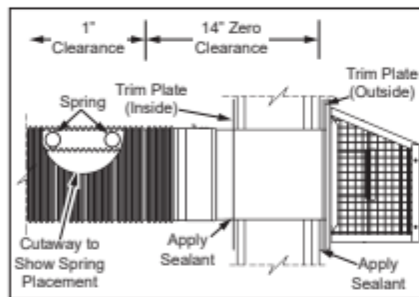

Figure 9 - Trim Plate Install
Cut a clearance hole, approximately 7" in diameter, through the exterior wall for the vent assembly. The recommended height is 64" for 40 gallon models or 73" for 50 gallon models, as measured from the hole center to bottom of water heater. Where the wall is combustible and the wall thickness is over 14", a 1" clearance to combustible surfaces around the vent terminal is needed. The first 14" is zero clearance (see Figure 9 on page 10).
The vent piping and the vent termination hood are to be connected as shown in Figure 7. Maintain vent clearances to combustibles as shown in Figure 9. Depending on your access to where the vent termination passes through the wall, you may wish to connect the piping and vent termination hood together first. Inside the vent piping there are springs that hold the two corrugated pipes in position. When the pipes are stretched to the required length, the springs will remain properly spaced. To connect the vent piping to the vent termination hood, first slide the inner (3") corrugated pipe over the inner vent termination pipe. Continue this action until the locking clip on the corrugated pipe snaps into position in the corresponding groove (see Figure 7). Secure corrugated pipe with screw (supplied) inserted through hole opposite the locking clip. Repeat this process with the outer (6") corrugated pipe and lock it into position on the outer pipe on the vent termination (see Figure 7). Secure corrugated pipe with screw (supplied) inserted through hole opposite the locking clip.
Some models are supplied with trim plates which may be used to cover the holes in the wall (see "Completed Installation" on page 2 and Figure 9). Slide one trim plate (if supplied) over the outer corrugated tube, then insert the outer corrugated tube through the clearance hole from exterior wall. Secure the trim plate to the exterior wall, then secure the vent terminal to the exterior wall with 4 screw anchors (included) appropriate for the type of wall construction. Caulk the junction of the vent terminal base plate and the exterior wall with exterior type sealant (not included). Slide the trim plate (inside) over the outer corrugated tube and fasten the trim plate to the interior wall. Caulk the junction of the outer corrugated tube and the trim plate (inside) with suitable sealant. The vent termination hood attaches to the vent piping as shown in Figure 9.
3. Minimum vent pipe clearance to combustibles is 1" (see Figure 9).